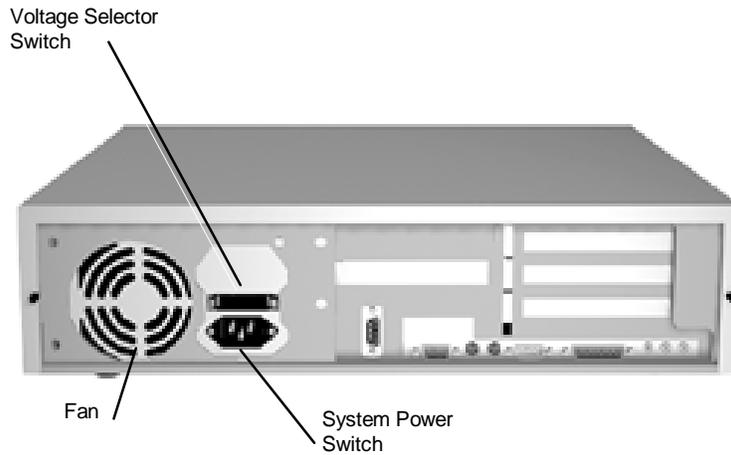

Figure 2-1 Voltage Selector Switch
1. Set the voltage selector switch to 115V (U.S. and Canada) or 230V (Asia and Australia) and plug the power cord into the system power socket (see Figure 2-1).